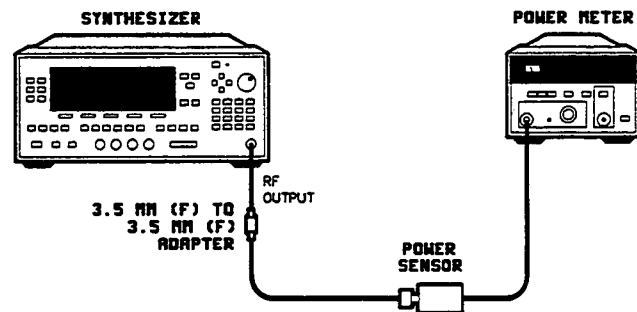

Figure 2-5. Power Accuracy Test Setup
1. Turn on the equipment shown in figure 2-5 and let them warm up for at least one hour.
3. Connect the equipment as shown in figure 2-5 and press **PRESET** .